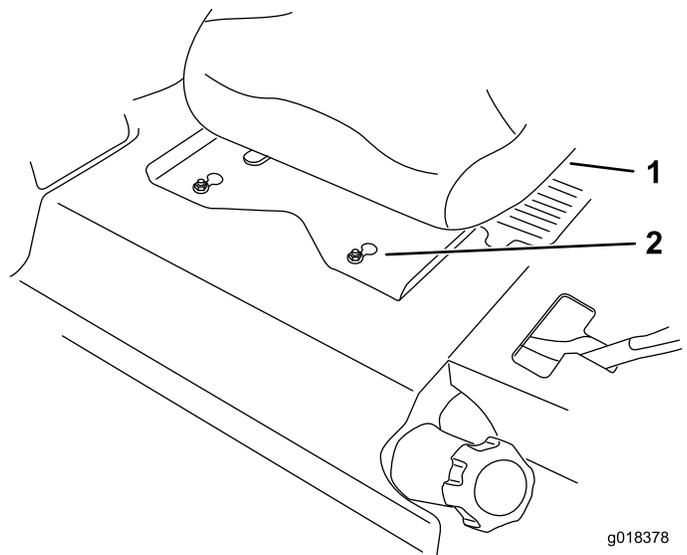

Figure 1
- Slide the seat and seat plate forward to allow the front nuts to go through the key holes (Figure 1).
- Slide the seat and seat plate rearward to lock the front nuts into the key hole and the rear nuts into the slots (Figure 1).